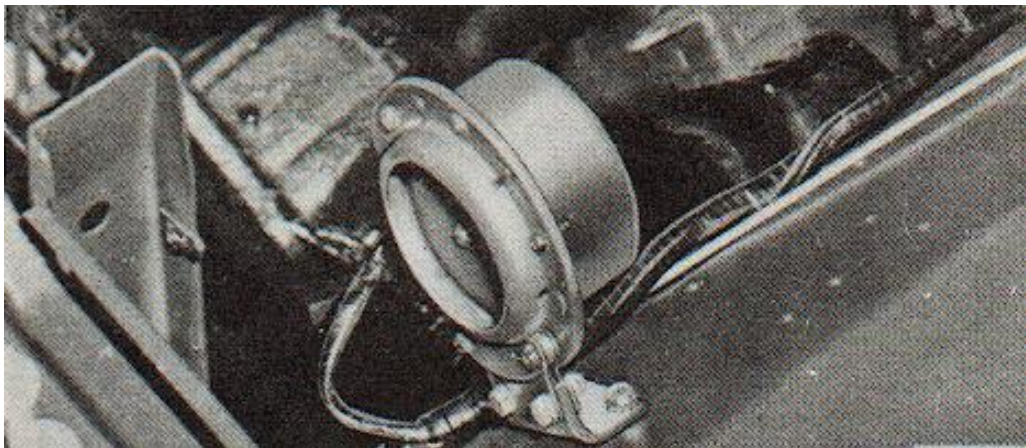

Figure 2-54. Horn assembly.
g. Horn. (Fig 2-54)
- (1) Disconnect electrical connector from horn.
- (2) Remove two bolts and lock washers which secure horn to fender apron sheet metal and remove horn.